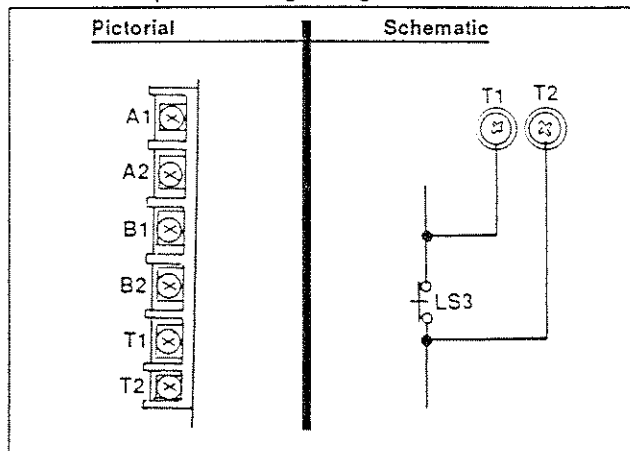

Figure 4. Limit Switch LS3 Test Points
4. Connect the VOM test leads across transfer mechanism terminals T1 and T2 (Figure 4).